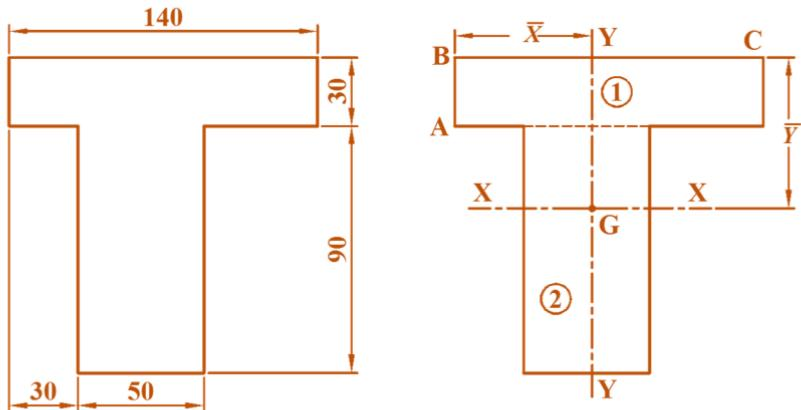

Fig.P5.11 M.I of 'T' section [Example 5.11]
**Calculate  $I_{xx}$  and  $I_{yy}$  for the section shown in the fig.P5.11.